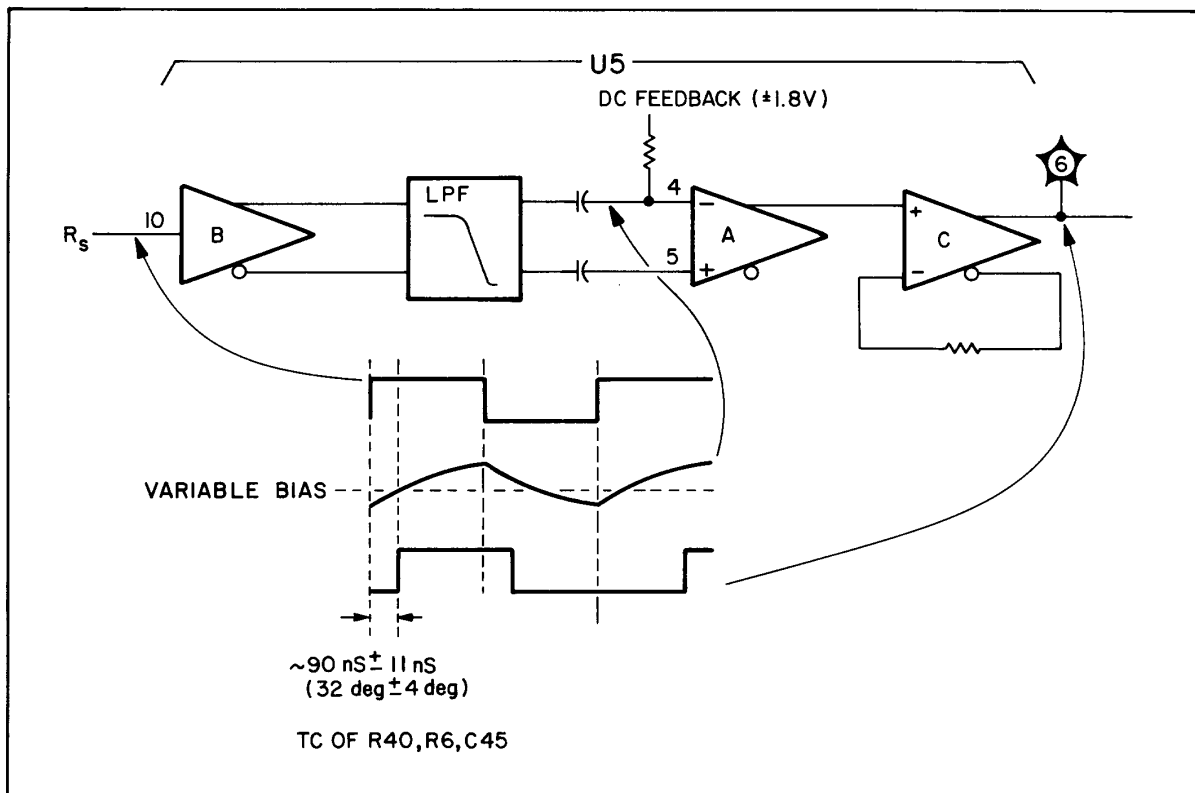

Figure 8-88. Hysteresis Summing, Simplified Block Diagram
**Hysteresis Summing.** The Hysteresis Summing circuit (Figure 8-88) in the R channel is essentially a  $\pm 4$  degree voltage-controlled phase shifter whose phase shift is controlled by the output of the Rectangular Phase Detector to provide  $\pm 4$  degrees of hysteresis at the  $+180$  and  $-180$  degree switch points. The  $R_S$  is further limited by U5B to provide a symmetrical square wave to the low pass